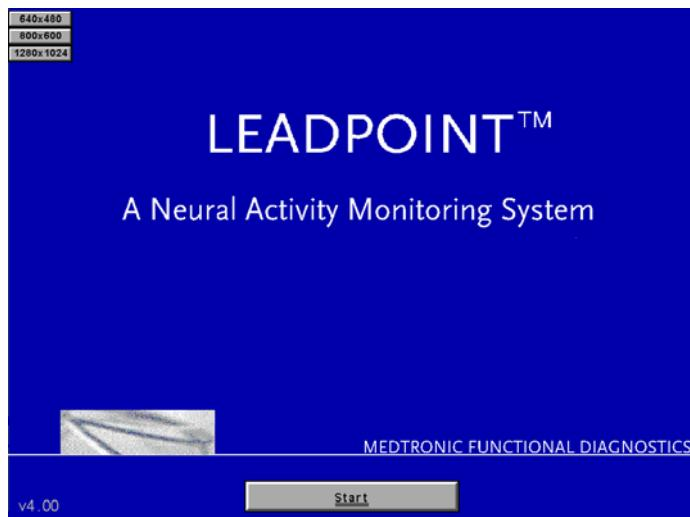

Figure 69 The Start Page of Leadpoint™
- Double-click the Leadpoint™ icon on your Windows desktop. The program will perform a swift self test before displaying the Start Page, see Figure 69 below:
- Click **Start** on the Start Page, and the **Patient Data Window** appears, see Figure 69 above.